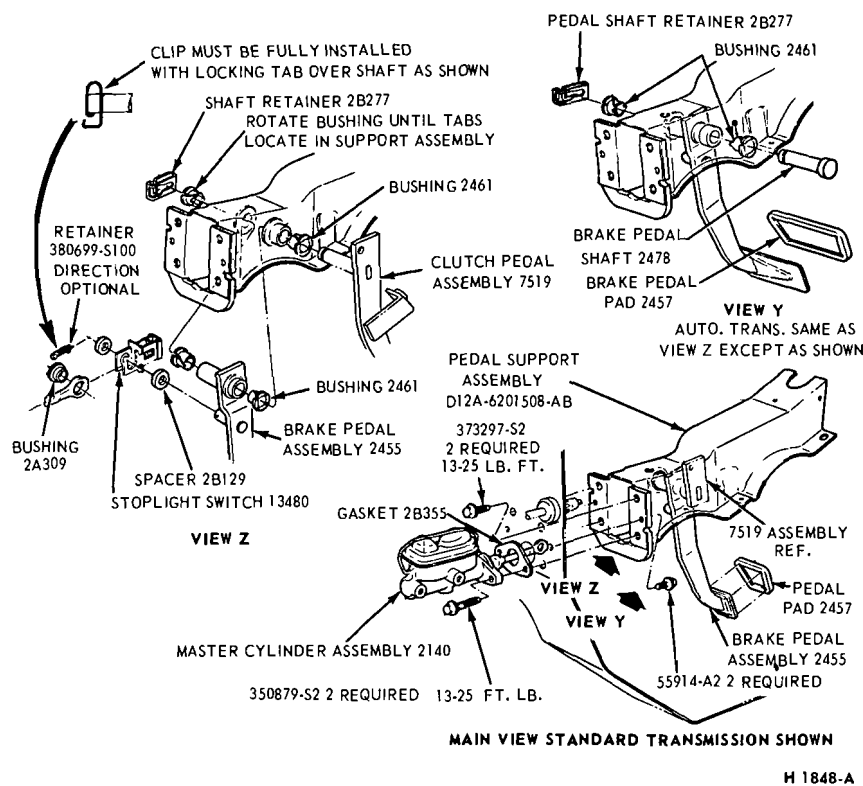

FIG. 13 Master Cylinder and Brake Pedal Installation—Pinto
2. Remove the hairpin retainer. Slide the stop light switch off the brake pedal pin just far enough for the switch outer hole to clear the pin, and then lower the switch away from the pin. Be careful not to damage the switch during removal. Slide the master cylinder push rod and the nylon washers and bushing off the brake pedal pin (Fig. 13).
1. Apply a coating of SAE 10 Engine oil to the bushings and locate bushings in their proper places on the pedal assembly and pedal support bracket (Fig. 13).
the pin, and install the nylon washer as shown in Fig. 13. **Be careful not to bend or deform the switch.** Secure these parts to the pin with the hairpin retainer.